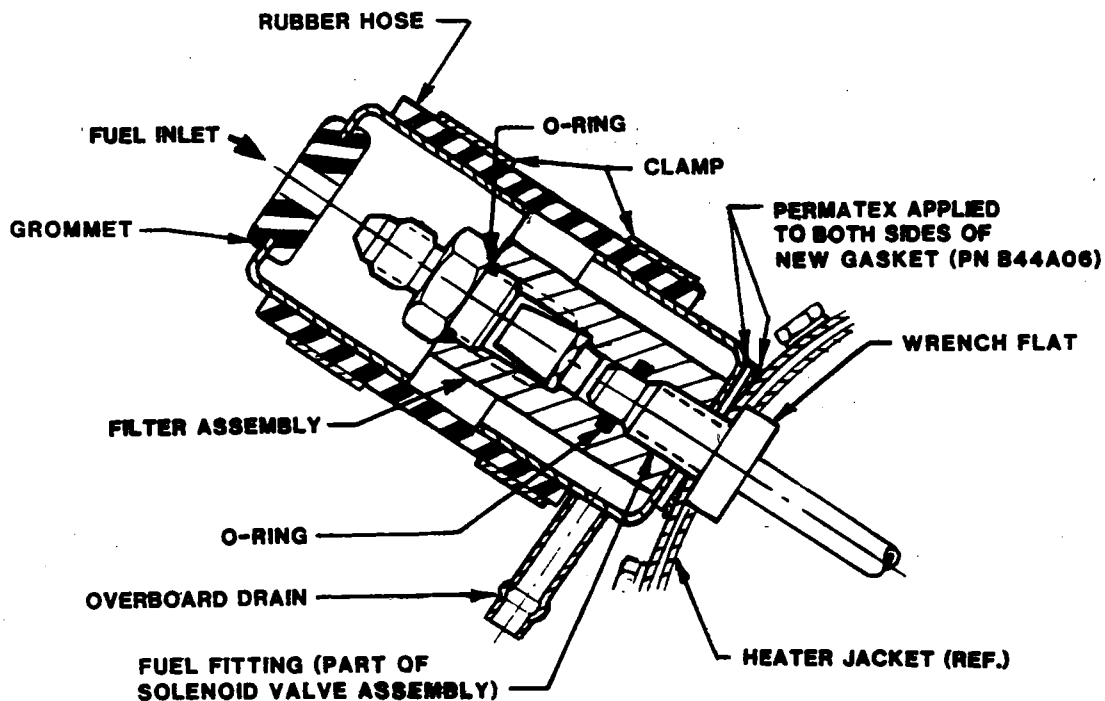

Figure 1. Typical view, installed
- B. Removal and Disassembly - (Refer to Figures 1 and 2 and Table 1)
- (1) Loosen clamp nearest heater. Slide rubber hose and upper shroud cup up the fuel line. Remove fuel inlet feed line from reducer.
- (2) Remove the heater from the aircraft, if required. Heaters with access window in jacket assembly do not have to be removed from aircraft. (See Table 1.)
- (3) Loosen and remove filter assembly.